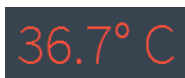

Figure 38 Temperature widget color change
- Set the tolerance range for temperature fluctuation. If the temperature is above or below the acceptable tolerance range from the temperature set point, the Temperature Widget will change color (Figure 38), and the Status Indicator light (top of the XFe Analyzer) will change from blue to amber. For networked XFe Controllers, Wave Controller software will automatically send an email notification to specified recipients.